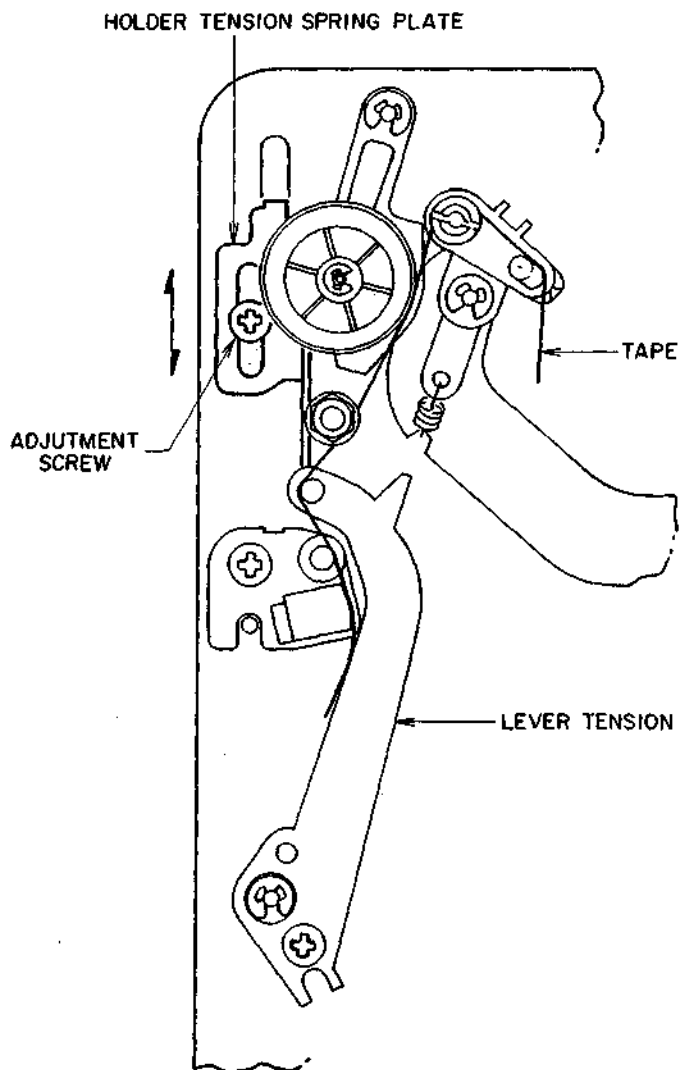

Fig. 110
(Refer to Figs. 110, 111)
- 2) Loosen the adjustment screw shown in Fig. 110, adjust the holder tension spring plate so that back tension will be 20 gf-cm, and tighten the adjustment screw.